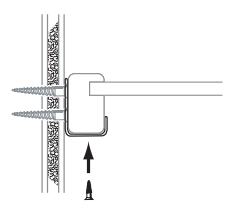

FIG. 5.4
- Secure shelf to all L-Hooks using #4 3/4" screws (Fig. 5.4)
- Repeat process for each (A) shelf.